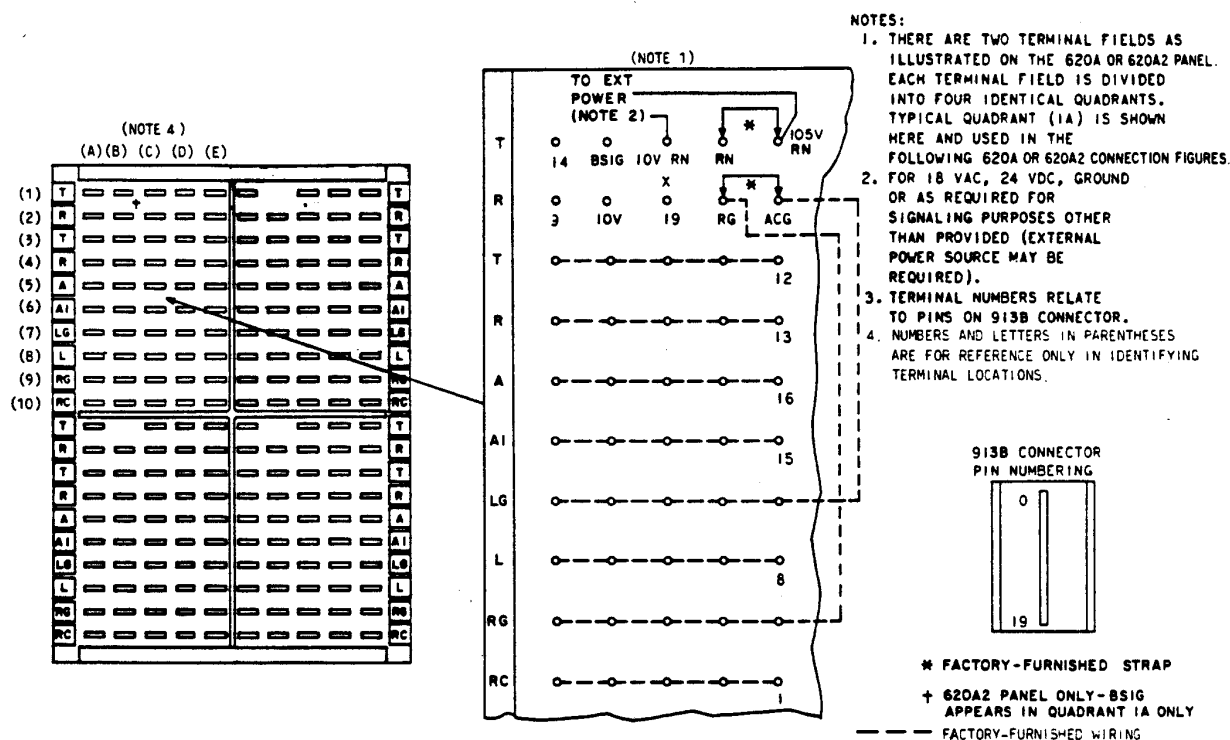

Fig. 14—Terminal Field Illustration and Terminal Designations for 620A (MD) or 620A2 Modular Panel (CO/PBX and Private Line Service)
**4.02** Preceding the 620A-type and 642A modular panel connections are typical terminal field illustrations of those panels showing the upper left-hand quadrant (1A) of the quick-connect field as an example of all its quadrants (Fig. 14 and 40).